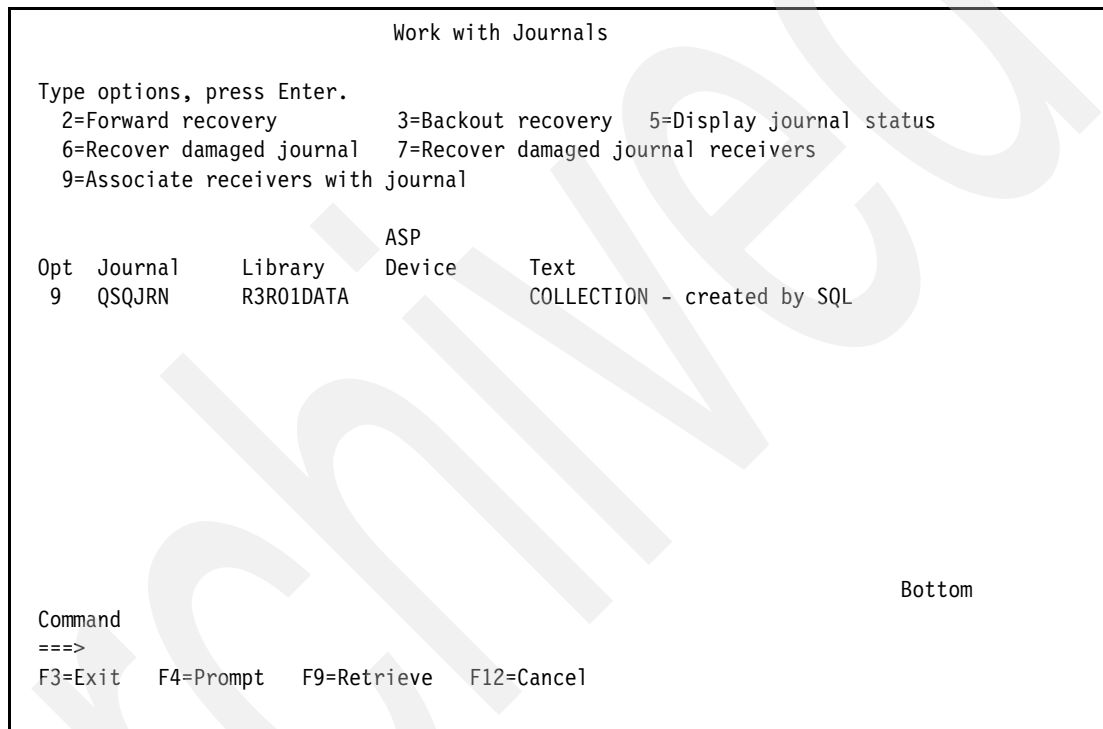

Figure 23-22 WRKJRN: associate receivers with journal
8. If the journal object has been deleted, use option **9** from the Work with Journals (WRKJRN) command to associate the restored receivers with the journal as shown in Figure 23-22: